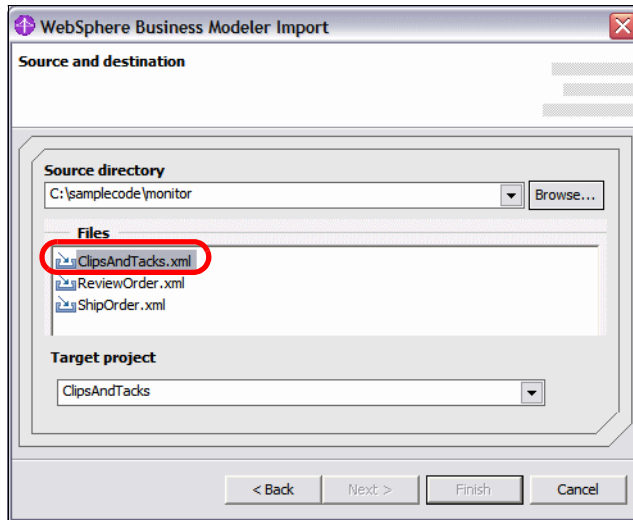

Figure 15-4 Modeler: Importing Monitor results (2)
- ▶ Select the `ClipsAndTacks.xml` file and click *Next* (Figure 15-4).